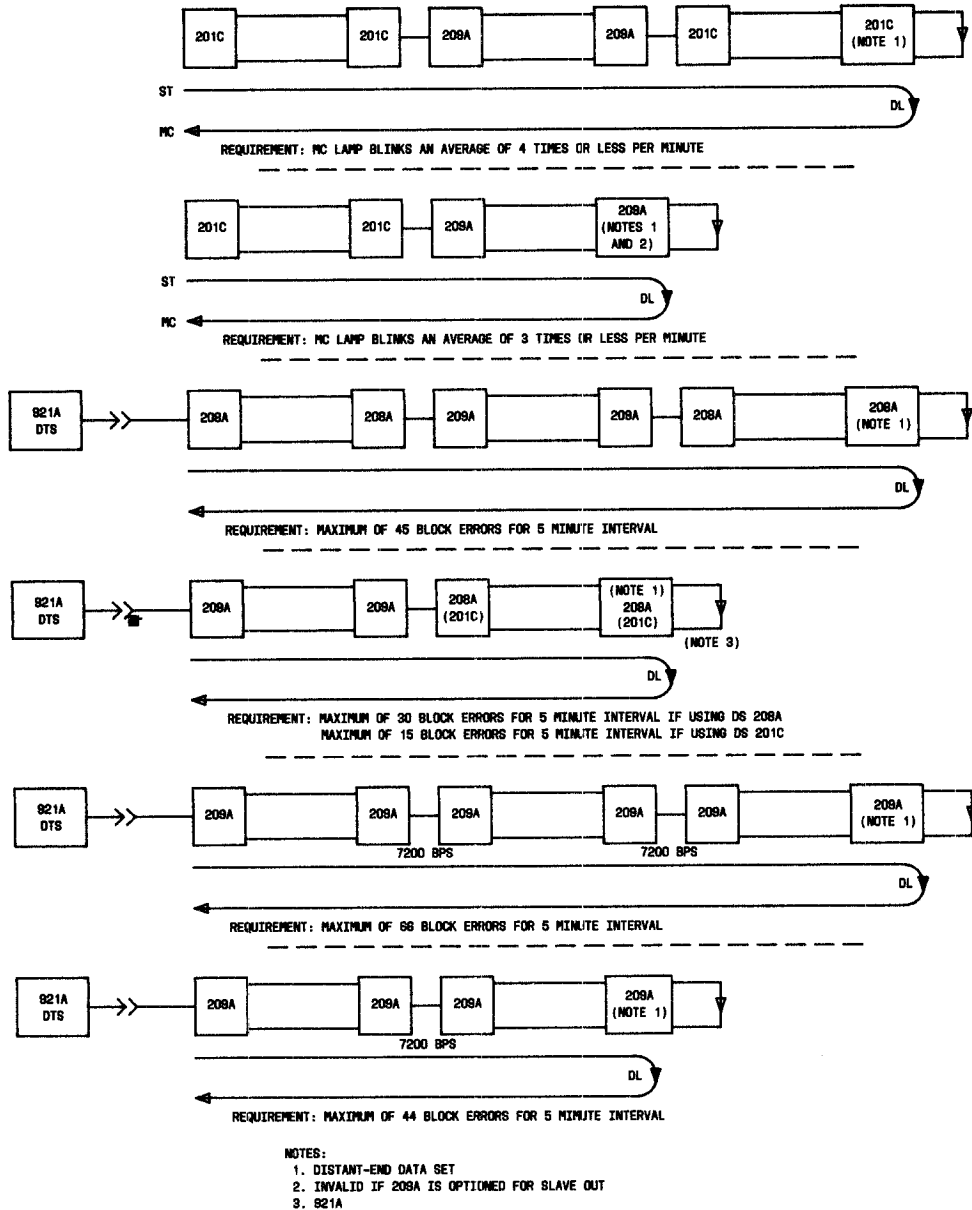

Fig. 3—Loopback and Test Requirements
- (1) Contact distant-end data station and have DL switch on data set depressed.
- (2) Depress ST switch on DS 201C-type.
- (3) Observe MC lamp for five 1-minute periods.
**Requirement:** Maximum allowable blinks of MC lamp depend on system configuration. Refer to Fig. 3.
- (4) If system does not meet requirement, refer to Section 592-032-300.
- (5) Release ST switch on DS 201C-type.
- (6) Contact distant-end data station and have DL switch on data set released.
Error Requirement: Maximum allowable block errors depend on system configuration. Refer to Fig. 3.
Requirement: Maximum allowable block errors depend on system configuration. Refer to Fig. 3.